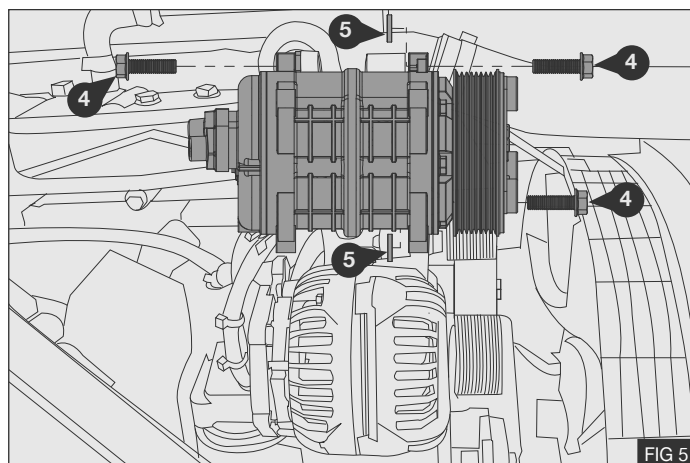

FIG 5
1. Mount the compressor to the bracket using three M10 x 35 set screws (4) and compressor spacers (5) - Fig 5.
2. Torque the three M10 x 35 set screws (4) to 58Nm / 42 lb.ft - Fig 5.